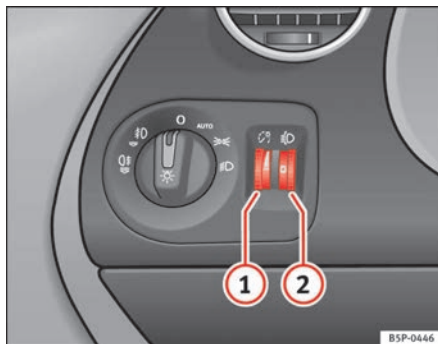

Fig. 73 Instrument panel: regulation for instrument and switch illumination and headlight range control
When the headlights are switched on, the brightness of the instruments and switch lighting can be regulated to suit your requirements by turning the thumb wheel ⇒ fig. 73 ①.